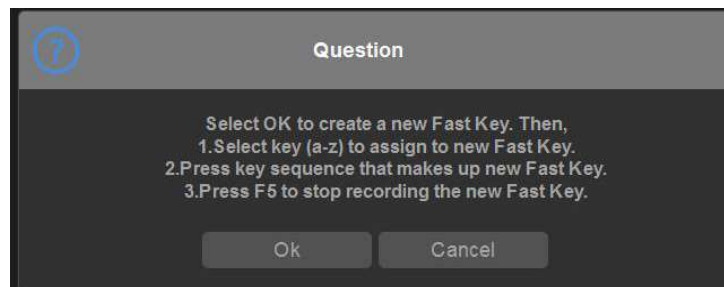

Figure 6-9. Fast Key
1. Press the **F5** key. The “Select OK to create a new Fast Key” dialog displays. Select OK to continue, refer to Figure 6-9 on page 6-27